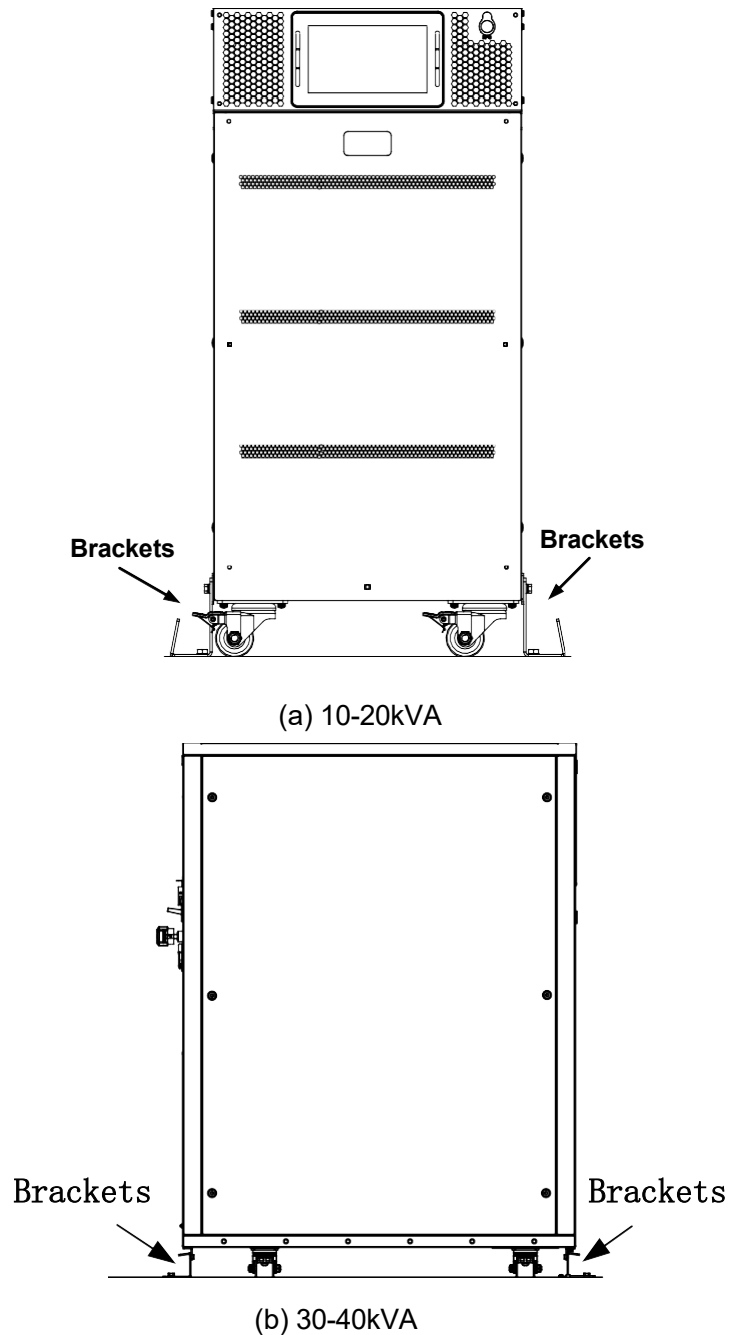

Figure 3-8 The brackets of the UPS
- (2) Use a hammer drill to drill holes at the installation positions for the expansion bolts, with a drill hole diameter of 10mm. Fully drive 4 M8 expansion bolts into the installation holes. Tighten the bolts to fully expand the expansion bolts, then unscrew the bolts.
- (3) Push the UPS to the designated installation position.
(4) Install the brackets of the UPS, as shown in Figure 3-8.